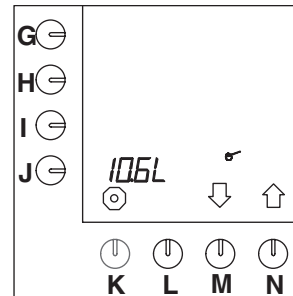

Fig. 20 Total amount of water
- After having entered the chief PIN code fig.20 appears on the display.